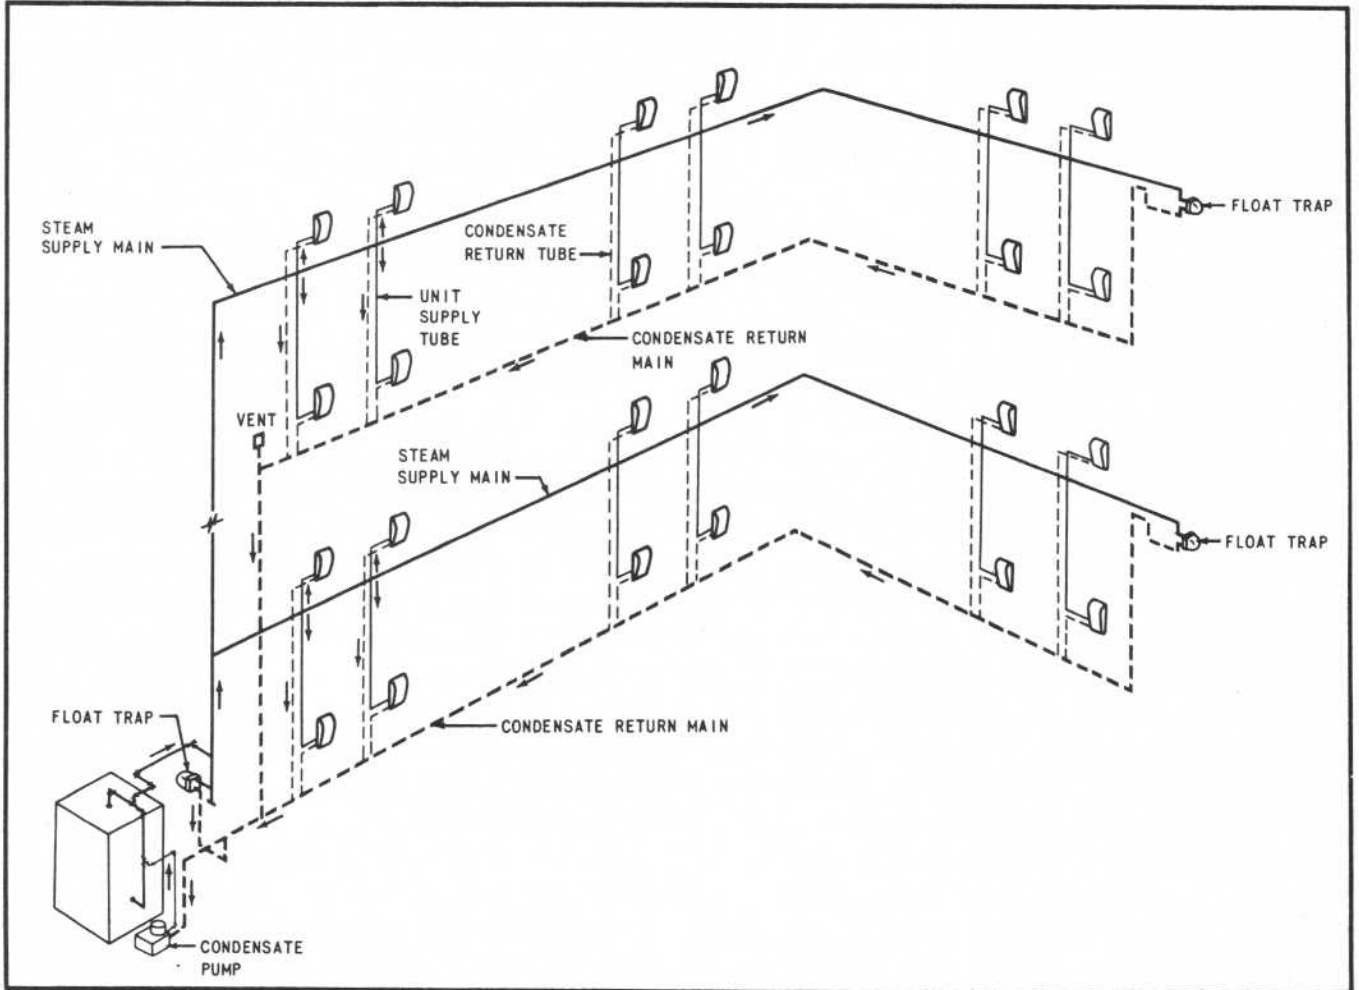

Figure 7 - Perimeter Main System - Up-Feed and Down-Feed to Units
- e. **PERIMETER MAIN, COMBINATION UP-FEED AND DOWN-FEED TO UNITS** (Figure 7.) This system can be used advantageously in larger buildings where horizontal mains can be installed on intermediate floors.